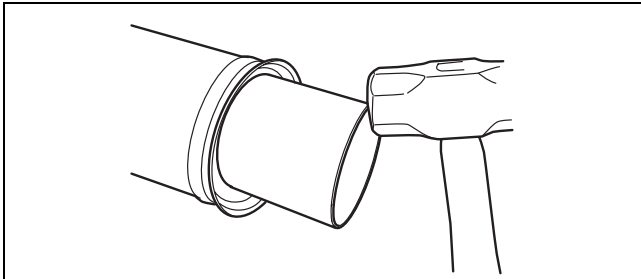

Figure 9.13
2. If necessary, install a new deflector on the coupling shaft. To avoid damaging the deflector, use a section of tubing and a brass hammer to seat the deflector. Verify that the deflector is completely seated against the center bearing support shoulder. Figure 9.13.